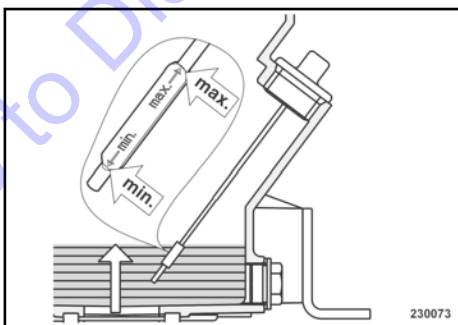

Fig. 41
Screw out the dipstick (1) ↘ Fig. 41, wipe it off with a lint-free, clean cloth and screw it completely back in.